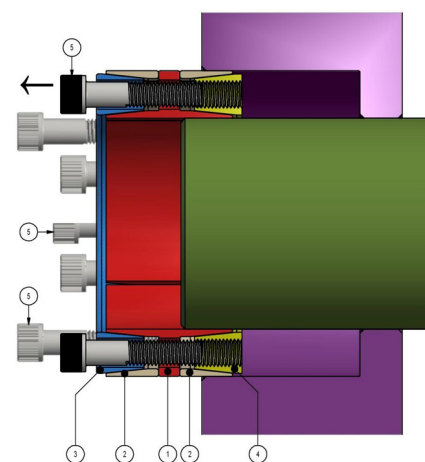

Fig. 6
4. Hold the head of some screws still engaged in the rear thrust ring. Pull out these screws in order to remove locking rings all together from hub bore (fig. 6).